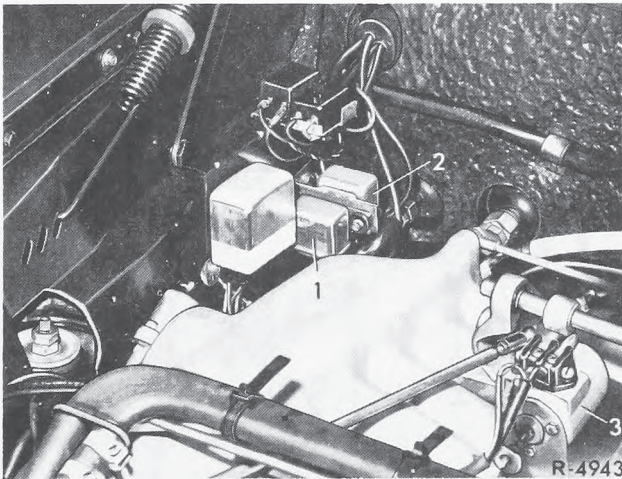

Fig. 83-18/1
- 1 When the ignition is switched on, terminal 4 of the blower switch (9) is energized by 15/54 via the additional fuse (Figs. 83-18/2 and 3).
- 2 Turning the blower switch (9) energizes the blower motor (1) via terminals 1,3 and/or 5 through the resistor (only in steps 1 and 2) and the temperature switch (8).
- 3 Turning the temperature switch (8) energizes the magnetic clutch (7) via relay (2), terminal 30/87a.
- 4 When the starter is actuated, the relay (2), terminal 86, is energized at the same time through terminal 50 of the starter so that during the starting process the circuit to the magnetic clutch is open.
- 5 The SE models with air conditioning system and the SE models with air conditioning system and MB automatic transmission up to the introduction of the laterally shifted transmission (May 1969) are equipped with a double-acting solenoid (6) for fast idle. In vehicles with MB manual transmission and in vehicles built after the introduction of the laterally shifted transmission (May 1969) this solenoid is energized through terminal 87a of relay (2) without any effect on the transmission.
In vehicles with MB automatic transmission up to May 1969 the double-acting solenoid (6) is energized through relay (2), terminal 87a when the air conditioning system is switched on, as well as through the two hydraulic switches (4 and 5) when a gear is engaged, by ground connection. For details see Figs. 83-18/2 and 3.
6 The location of the double-acting solenoid (6) and the relays (2 and 3) is shown in Fig. 83-18/1.